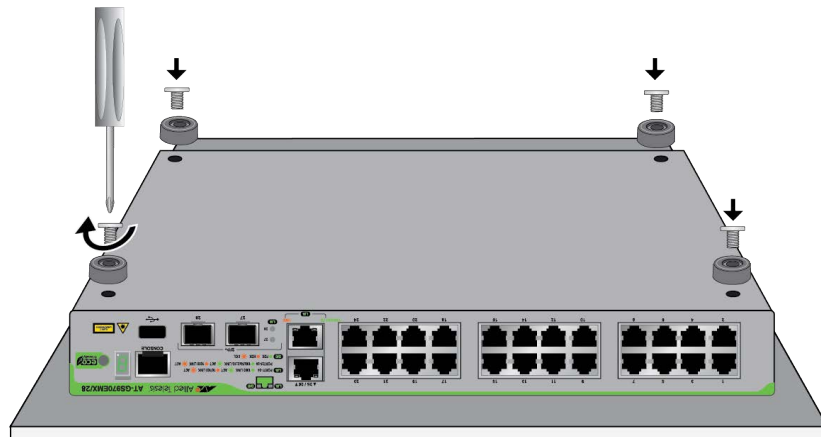

Figure 26. Attaching the Bumper Feet on GS970EMX/10, GS970EMX/20, and GS970EMX/28 Switches
5. For the GS970EMX/10, GS970EMX/20, and GS970EMX/28 Switches, attach the four bumper feet to the bottom corners of the switch using the four 3x4.5mm screws and a Phillips-head screwdriver. Refer to Figure 26.